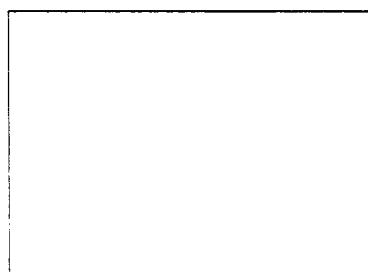
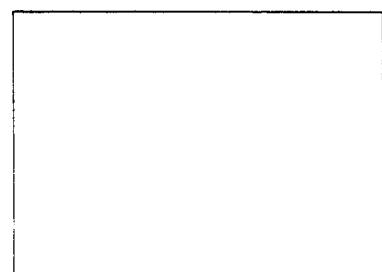

Figure 2-13
Figure 2-14
1. Locate the altitude adjustment knob — it is directly below the counter-weight shaft (see figure 2-13).
1. Locate the azimuth lock screws and adjustment knobs on the back of the mount (see figure 2-14).
The altitude adjustment knob (figure 2-13) and the azimuth adjustment knobs (figure 2-14). The azimuth locking screws are behind the azimuth adjustment knobs.